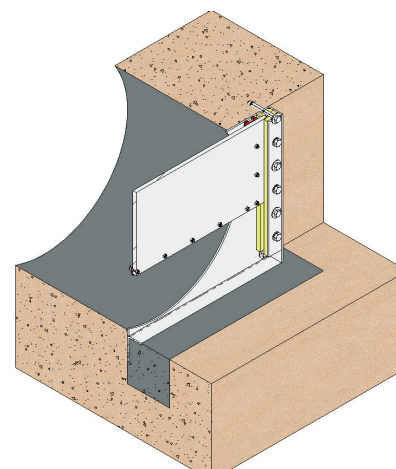

Fig. 33
- In order to mount the penstock with the base embedded in the concrete (fig. 33), the civil work must have housing in the ground (fig. 28 and 29). Once the penstock is in position in the housing, align it with regards to the wall orifice, ensuring that the base of the penstock is level with the civil work, thus ensuring that there is no protrusion in the base and guaranteeing entirely continuous passage. Make the boreholes necessary for the upper and side profiles, using the holes of the body of the penstock as a guide. Remove the penstock and apply sealing paste such as SIKAFLEX-11FC or similar where the penstock is to be located on the wall, in order to prevent leakages between the body and the wall. Return the penstock to its location and screw down with chemical or expansion anchors using the usual procedure, namely with the help of a flat rule, screwing crosswise and without excessive force.